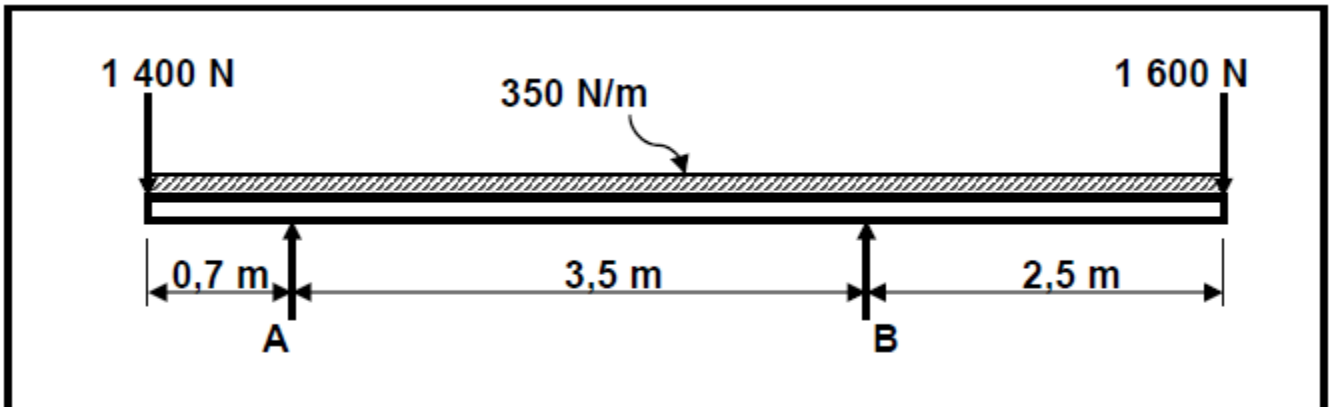

FIGURE: 3.5
3.5 FIGURE 3.5 below shows a uniform beam that is supported by two vertical supports, **A** and **B**. Two vertical point loads, 1 400 N and 1 600 N, are exerted onto the beam, as well as a uniformly distributed force of 350 N/m over the total length of the beam. Determine, by means of calculations, the magnitude of the reactions in supports **A** and **B**.